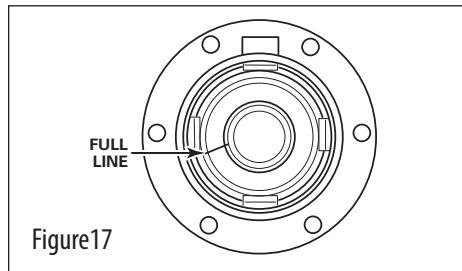

Figure 17
2. Be certain the hubcap is properly filled to the "oil level" mark on the face of the cap (see Figure 17). Allow the initial fill amount to settle for 10 minutes. Repeat the fill procedure until the oil is at the fill line on the hubcap.